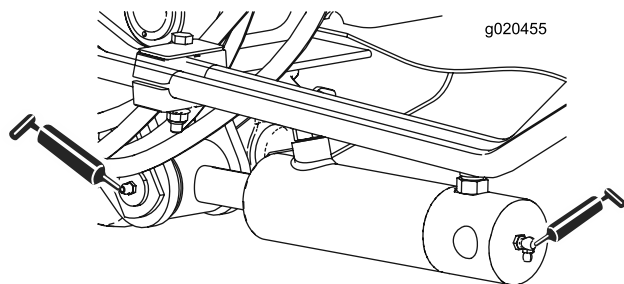

Figure 42
- Lift arm cylinder bushings (2 each) (Figure 42)